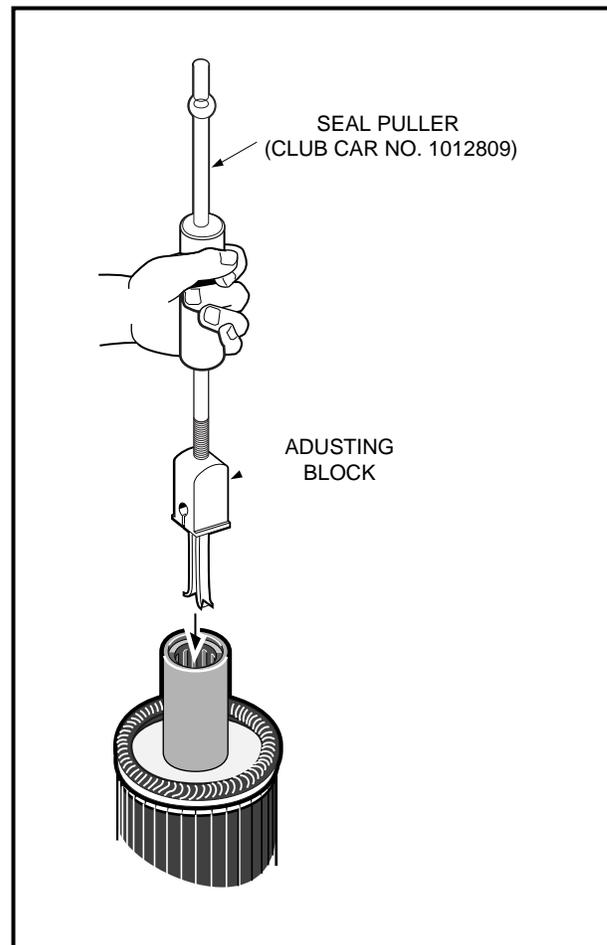

Figure 15-10 Guide Ring Removal
2. Insert the fingers of a seal puller (Club Car Part Number 1012809) through the guide ring (18) (approximately 3/4 in. (19 mm) into the shaft). Turn the adjusting block to expand the fingers until they are wedged under the bottom edge of the guide ring. Remove the guide ring by quickly and forcefully sliding the ram up the tool shaft and against the stop (**Figure 15-10, Page 15-7**). The guide ring may also be removed using a small pry bar.